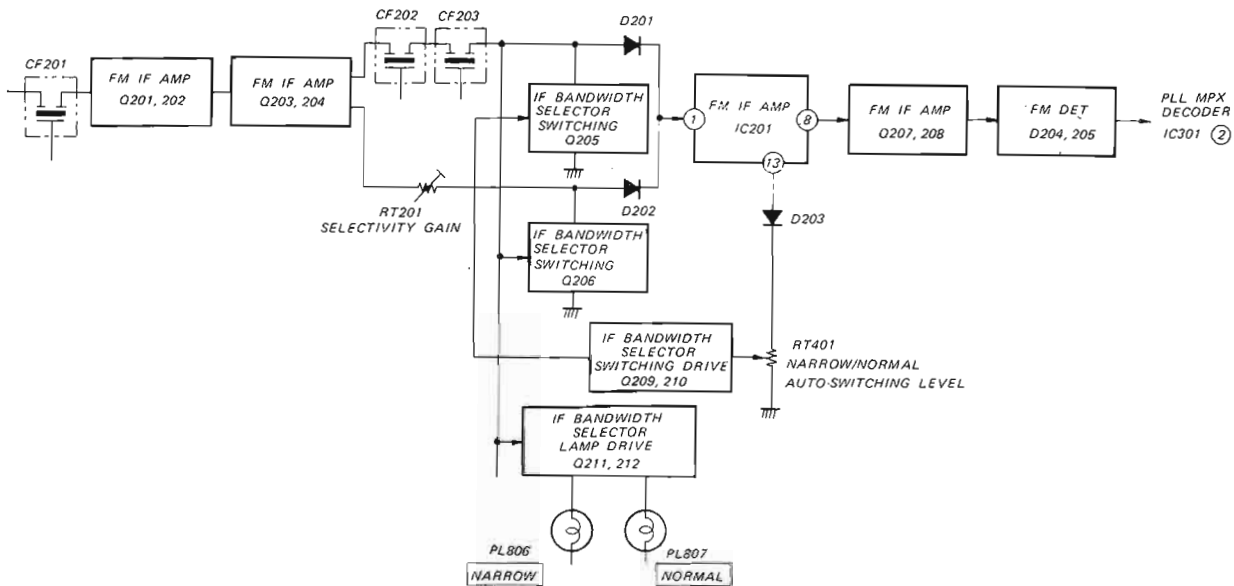

Fig. 1-3
2. IF Amplifier and Detector Stages (see Fig. 1-3)